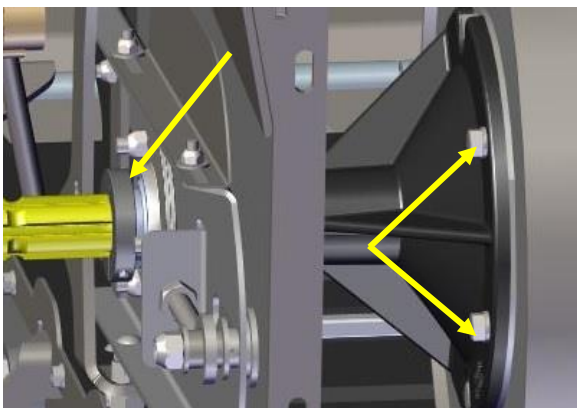

Figure 14
12. On the left end of the auger remove the shaft and spider assembly. Remove the lock collar on the bearing. Take the six bolts out to the end disc pulling the disc out of the auger. This will allow the cross shaft to be pulled out of the auger. Figure 14